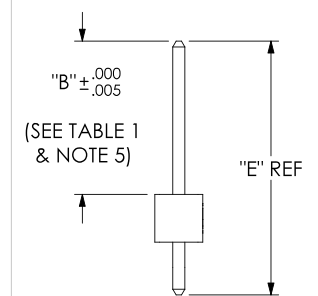

FIG. 1
- LC: LOCKING CLIP (SEE FIG. 1) [USE LC-08-TM-02] [-02 THRU -36 POS: 2 PER STRIP, -02 POS: 1 PER STRIP]
[DIFFERENT AS SHOWN, OTHERWISE SAME AS FIG. 1]